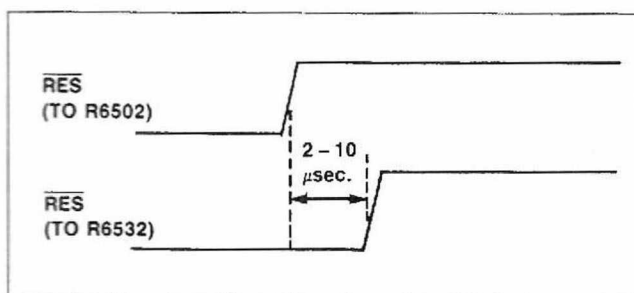

Figure 1. Delayed Reset to R6532
2. Use separate $\overline{\text{RES}}$ signals for the R6502 and the R6532. In order to avoid the first two cycles of the start-up (wherein the addresses are unpredictable), it is necessary to hold the $\overline{\text{RES}}$ to the 6532 low *after* the $\overline{\text{RES}}$ to the R6502 goes high. This is illustrated in Figure 1.